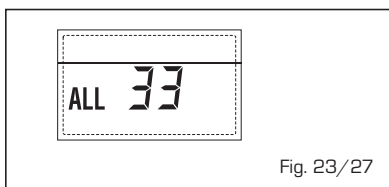

Fig. 23/27
- **RS-485 BOARD COMMUNICATION ANOMALY IN CASCADE MODE "ALL 34" (fig. 23/28)**